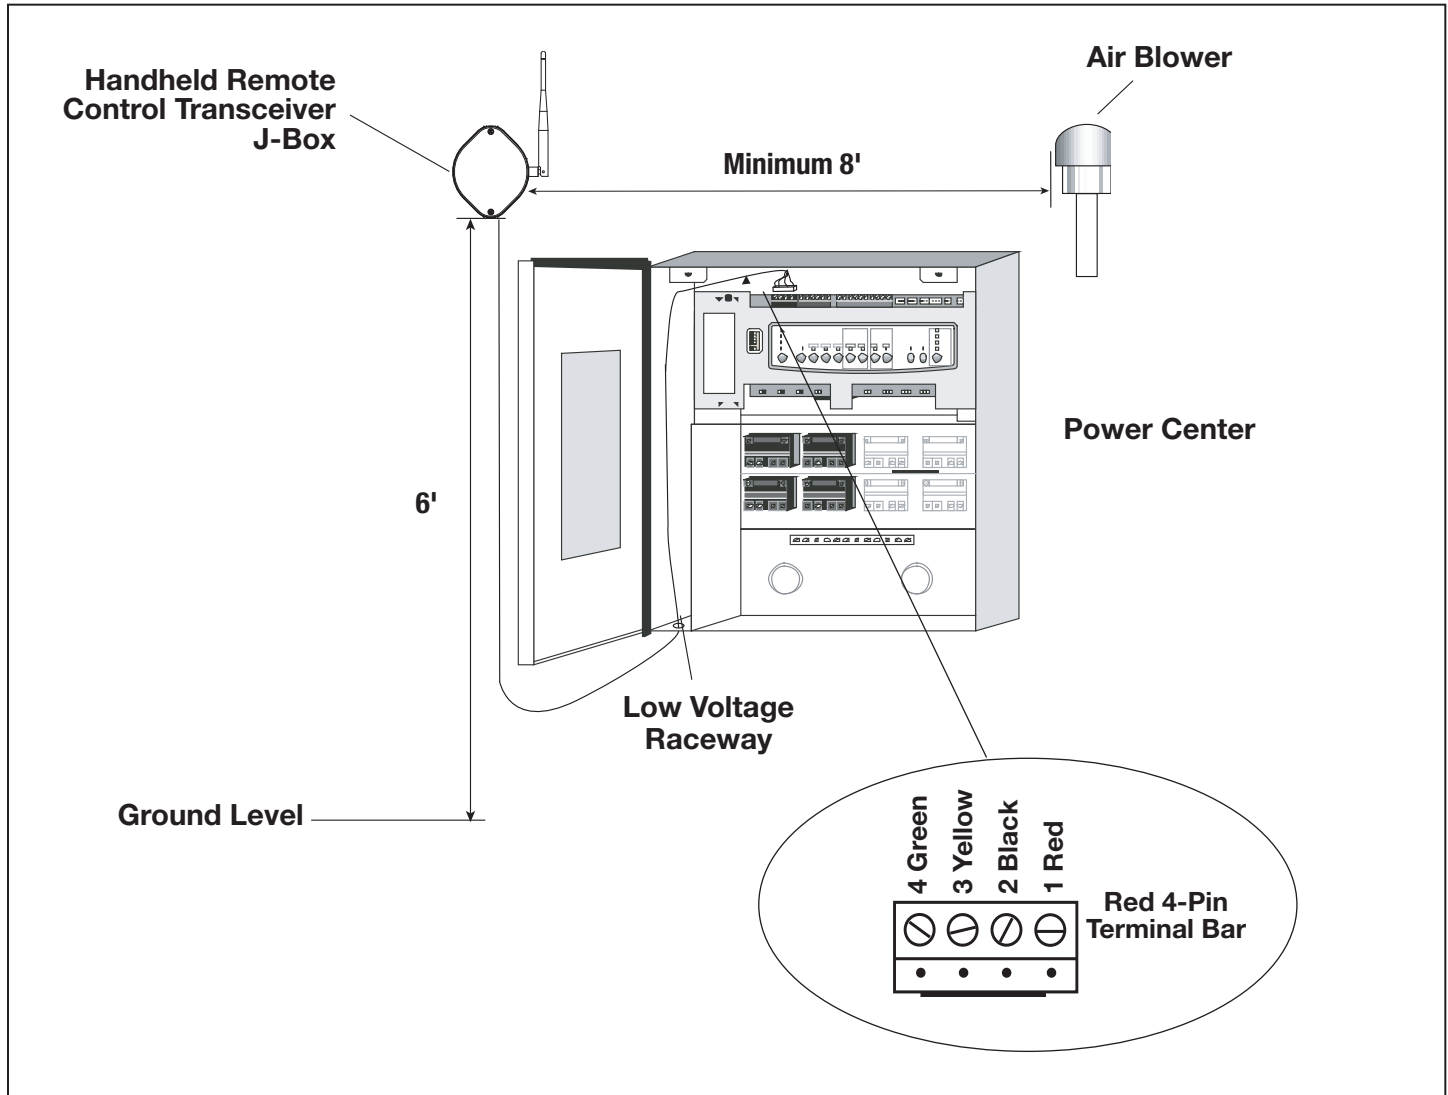

Figure 1. Transceiver J-Box Installation
3. Disconnect the red four-pin connector from the red terminal bar located on the power center PCB (see Figure 1).
6. On the transceiver J-Box, remove the existing two (2) screws that secure the J-Box to the mounting surface. Then, remove the transceiver J-Box from the mounting surface.